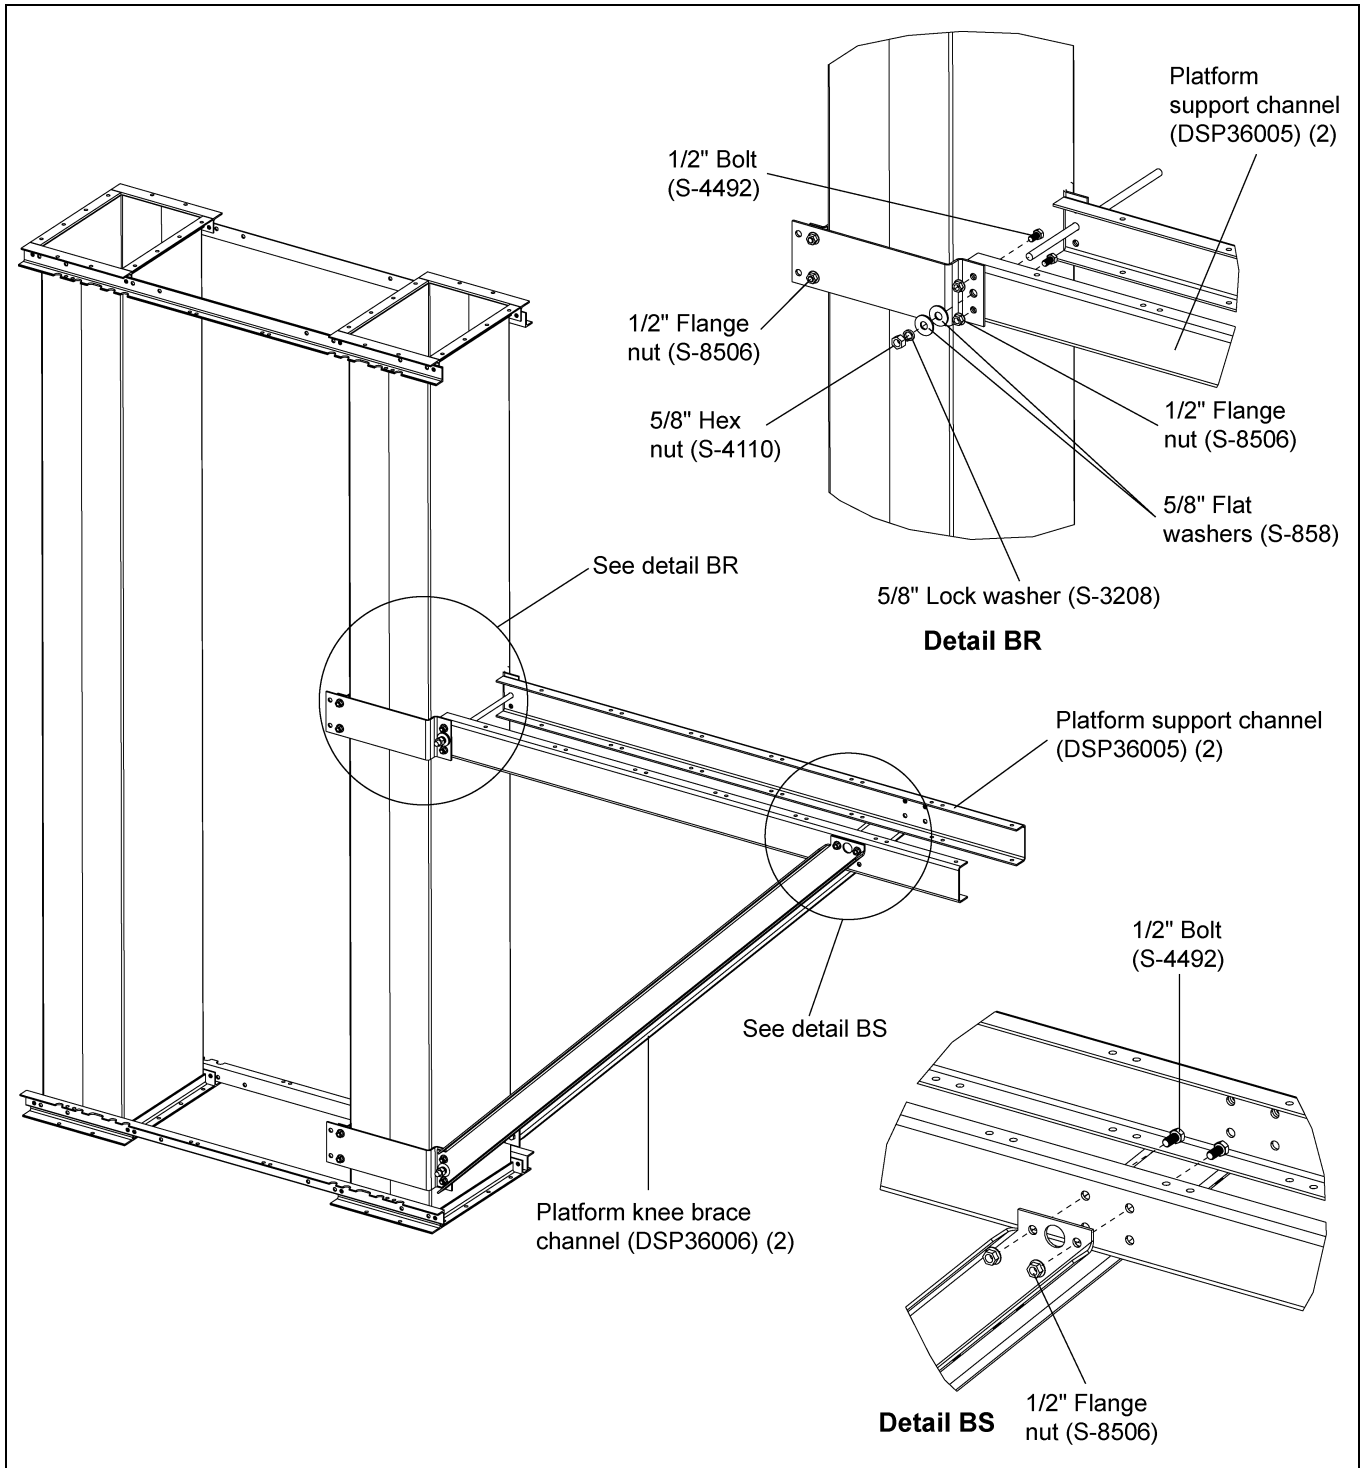

Figure 10C
Insert rod (DSP36008) through middle hole in the bracket, attached to the platform support channel using 5/8" hex nut (S-4110), 5/8" lock washer (S-3208) and two (2) 5/18" flat washers (S-858). The knee braces will attach in the upper set of holes on side of support channels using 1/2" hardware. (See Figure 10C.)